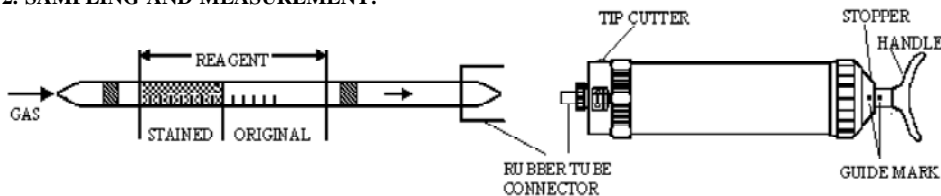

Fig.1
- ② Insert the detector tube into aspirating pump securely as shown in Fig.1. (Arrow mark shall point to the pump.)
- ③ Align the guide marks on the shaft and stopper of the aspirating pump.
- ④ Pull the pump handle at full stroke until it locks and wait for 1.5 minutes or until the completion of sampling is confirmed with the flow indicator of the pump (See descriptions about the flow indicator in the instructions of the pump).